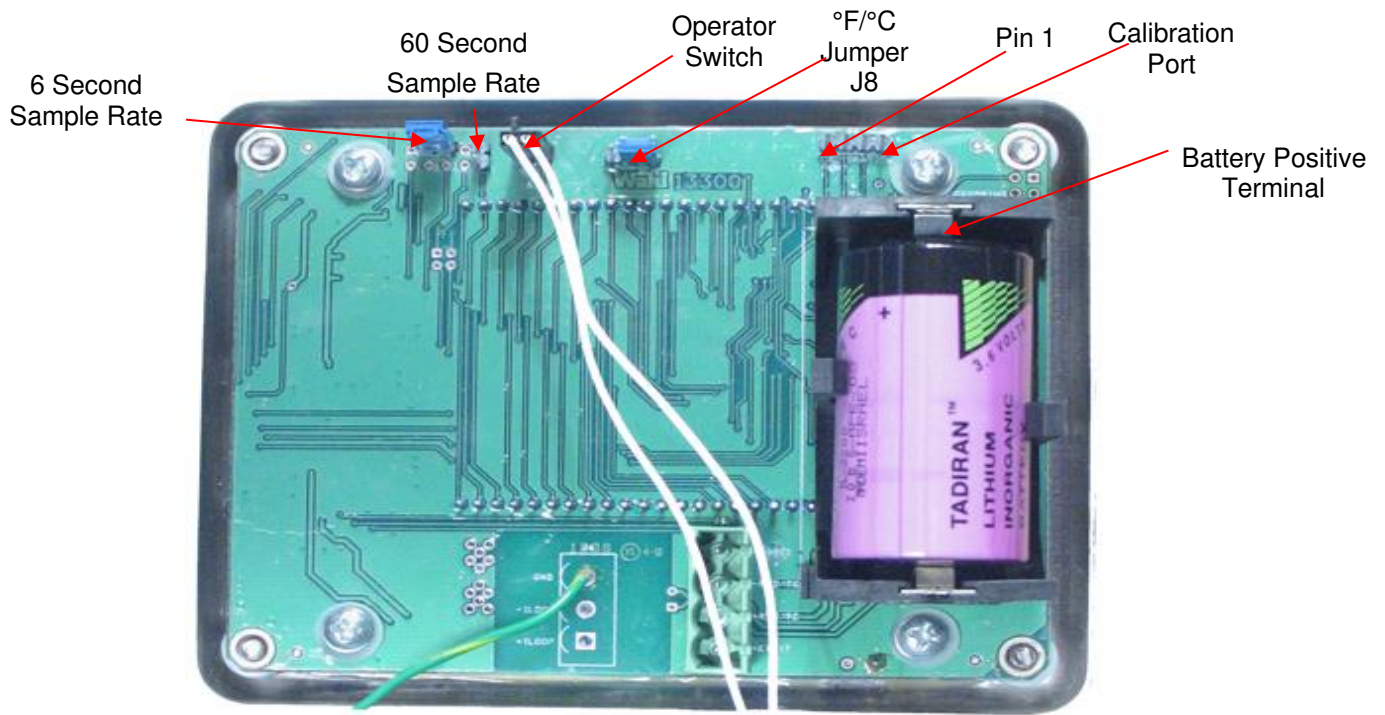

Fig. 4
- 2.2.7. Remove the 4-pin pluggable terminal strip connector (J1) from the PCB mating connector and connect probe wires as follows (Fig. 4).
- 4.1. Scale Selection °F/°C - Temperature scale is user selectable via jumper J8 (Fig. 4) on the Printed Circuit Board (PCB). The scale is indicated in the upper right corner of the display (Fig. 3).
- 4.2. Sample Rate Selection – Sample rate selection is factory set at 6-second intervals. To select 60-second interval, move the blue jumper on the back of the PCB assembly per Fig. 4.